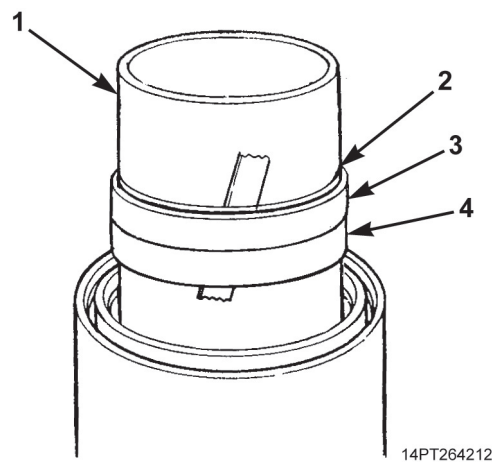

Figure 8. Wiper Component Removal.
12. Extend sleeve (Figure 8, Item 1) to expose wiper retainer (Figure 8, Item 3) and seal (Figure 8, Item 4). Remove wiper retainer and seal from sleeve. Remove wiper (Figure 8, Item 2) from wiper retainer. Discard wiper, wiper retainer, and seal. Remove tape from sleeve, if used.